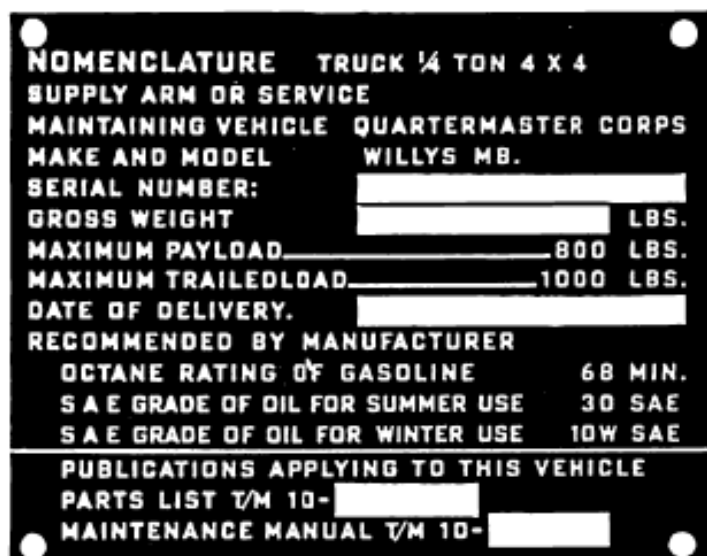

FIG. 2—NAME PLATE
**Nomenclature Plate (Name Plate)—Fig. 2**
At 500 miles and 1500 miles, then every 2500 miles thereafter completely drain the oil by removing the drain plug, indicated by No. 15, Fig. 2, in the lower left side of the oil pan and refill with fresh lubricant, in accordance with specifications.